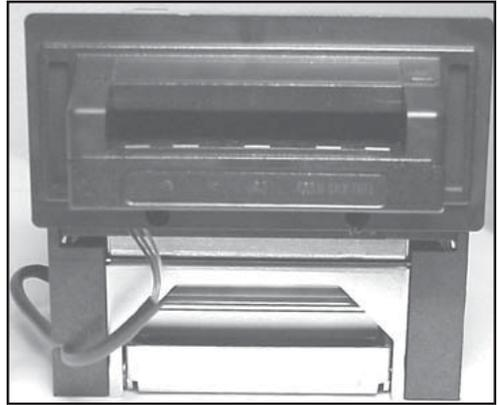

Figure 4
8. Replace the transport in the frame (see Figure 4).